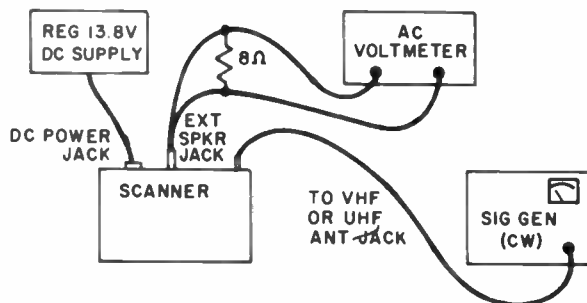

Figure 2—Test Setup for IF, AFC, and High VHF Oscillator Adjustment.
1. Connect the test equipment as shown in Figure 2.
2. Remove crystals from the crystal sockets and set the program switches to the UHF (U) position. Manually set the scanner to channel 1 and the squelch control fully CW.
2. Connect the RF Generator and AC Voltmeter as shown in Figure 2.
3. Set the program switch to high (H).